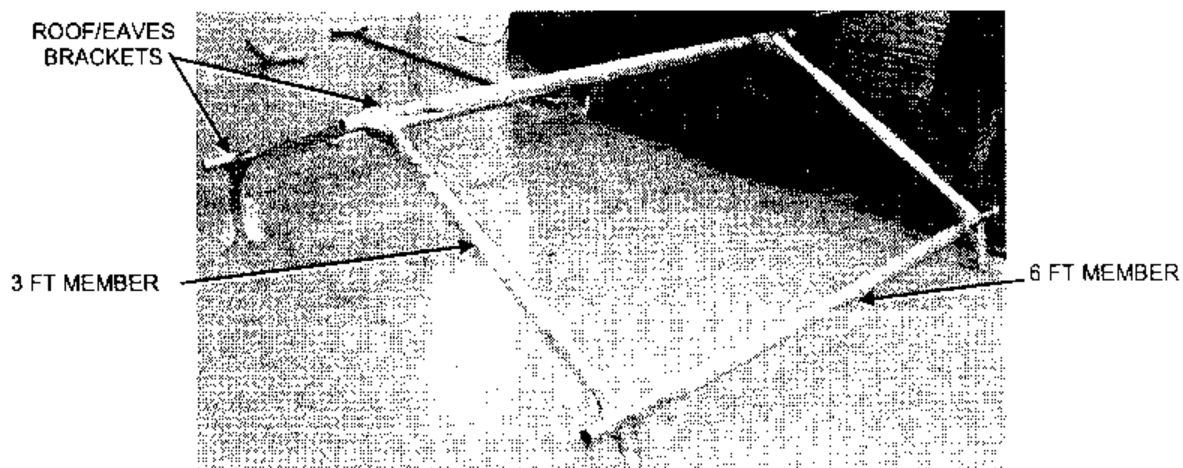

Fig 10 Roof frame assembly
- 12 Refer to Fig 10 and proceed as follows: